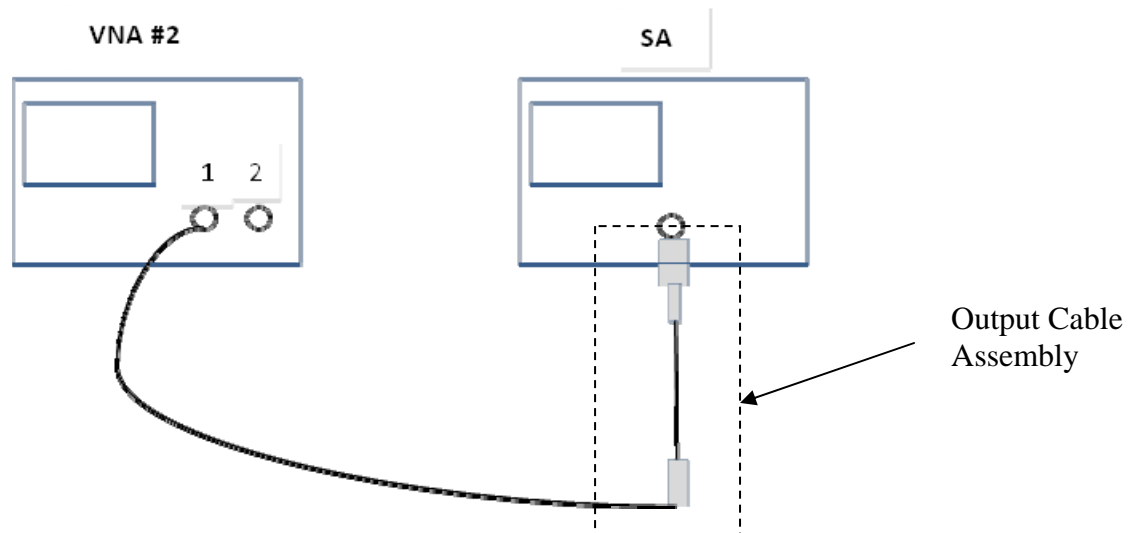

Figure 4: LO Power Measurement Setup
1. Set the internal attenuator on the SA to 30 dB. Set the Reference Level to 10 dBm. Connect the second VNA as the local oscillator by connecting the port 1 cable of VNA #2 to the output cable. The setup is shown below in Figure 4.